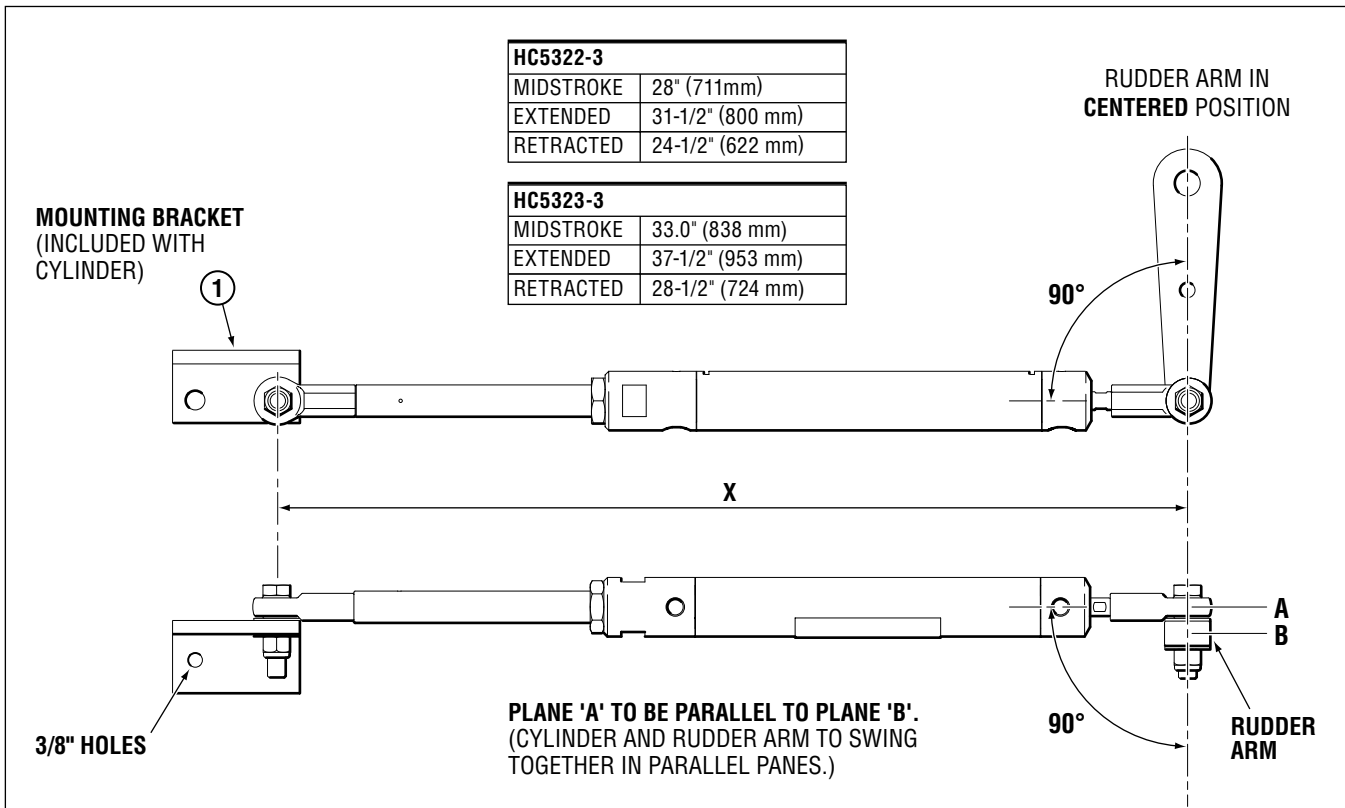

Figure 9. Correct Cylinder to Rudder Arm Mounting Orientation.
2. To achieve MAXIMUM performance, cylinder is to be mounted at a right angle (90°) to the rudder arm when in the center position (refer to Figure 9 below).
5. Place rudder in midstroke position and extend cylinder to mid stroke (see Figure 9).
6. Temporarily install the other rod end into the mounting bracket (item 1, Figure 9). Using the bracket as a template, mark off the positions of the two 3/8" holes on the mounting surface.
8. Mount the bracket (item 1, Figure 9) with through bolts, washers and nuts (not supplied by SeaStar Solutions). DO NOT USE LAG BOLTS.